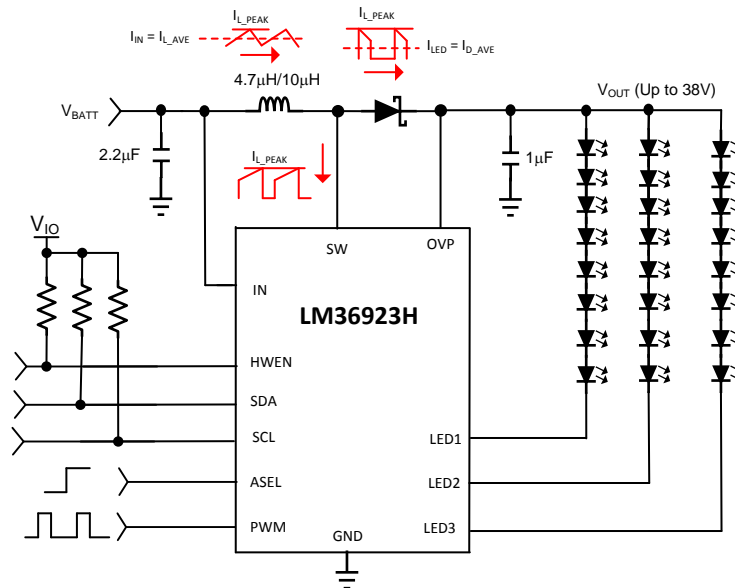

Figure 1. White LED Driver Boost Schematic
Asynchronous boost converters require a Schottky diode as the rectifying element due to the diode's low forward voltage and fast turn-on time. Because of these characteristics asynchronous boost converters can have as good as, or better efficiency, than synchronous boost converters. This is especially true when the boost conversion ratios (V_{OUT}/V_{IN}) are high, and the Schottky diode conduction time is low. Figure 1 shows a typical boost converter used in an LCD backlight application. Circuits like these are good examples of how picking the right diode is important in achieving maximum efficiency and performance.
The main parameter for diode selection is the diode reverse voltage rating. This is the maximum voltage, which the diode can block when in the off state. When used as the rectifying diode in a boost converter the reverse voltage should be \geq the maximum voltage that the application can detect. For example, in the LM36923H (Figure 1), with 8 series LEDs the output voltage can potentially get up to $3.3 \text{ V} \times 8 + 0.26 \text{ V} = 26.66 \text{ V}$. The 0.26 V is the regulated headroom across the current sinks, so this must be included in the output voltage. Therefore, the chosen Schottky must have a VR rating of $> 27 \text{ V}$ (30 V is a typical rating).
Schottky diodes typically have two current ratings: an average (or DC) rating, and a repetitive peak current rating. The average current rating should be \geq the average (DC) current of the diode. The repetitive peak current rating should be \geq the application peak operating inductor current. The currents are shown in red in Figure 1. The same peak inductor current goes through the inductor, the low side NMOS and the Schottky diode. Only the average current through each is different. Keep in mind that the peak current of the application is different than the peak current limit of the boost. The peak current of the application depends on V_{IN} , V_{OUT} , I_{OUT} , switching frequency, inductor, and efficiency. The peak current limit of the boost is a protection feature of the boost converter designed to protect the internal power NMOS in case of overcurrent conditions. Also, Schottky diodes sometimes have a maximum forward surge current listed. This is generally much higher than the repetitive peak current. For design purposes, the repetitive peak current should be used.
Schottky average (DC) current rating must be \geq the Schottky DC current in the application. In Figure 1, this will be the total LED current (sum of strings 1, 2, 3).
As an example, for the 3 \times 8 LED configuration shown in Figure 1, the circuit parameters are given as ($VOUT_MAX = 26.7 \text{ V}$, $VIN_MIN = 2.7 \text{ V}$, $ILED_TOTAL = 60 \text{ mA}$, $efficiency = 87\%$, $f_{SW} = 1 \text{ MHz}$, $L = 10 \mu\text{H}$). Because the total load current is 60 mA, the diode DC current rating must be \geq to 60 mA. Then using (Equation 1) we get an IL_PEAK of 0.749 A, which means the Schottky diode repetitive peak current rating must be at least 750 mA.